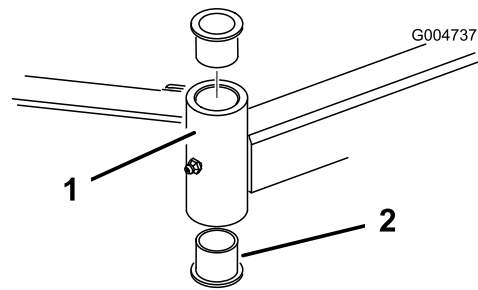

Figure 106
4. Insert a pin punch into the top or bottom of the mounting tube and drive the bushing out of the tube (Figure 106). Also drive the other bushing out of the tube. Clean the inside of the tubes to remove dirt.